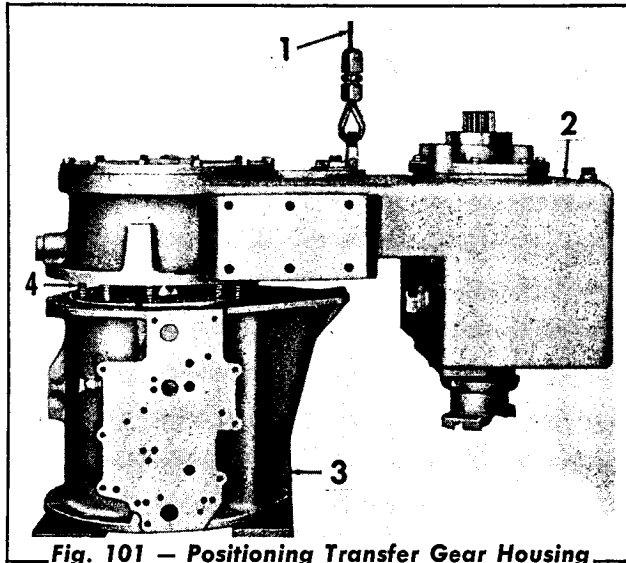

Fig. 101 — Positioning Transfer Gear Housing for Installation on Transmission Housing
17. Attach a lifting sling (Fig. 101) to the center of the transfer gear housing and lower it onto the transmission housing, being certain that the springs remain straight and that